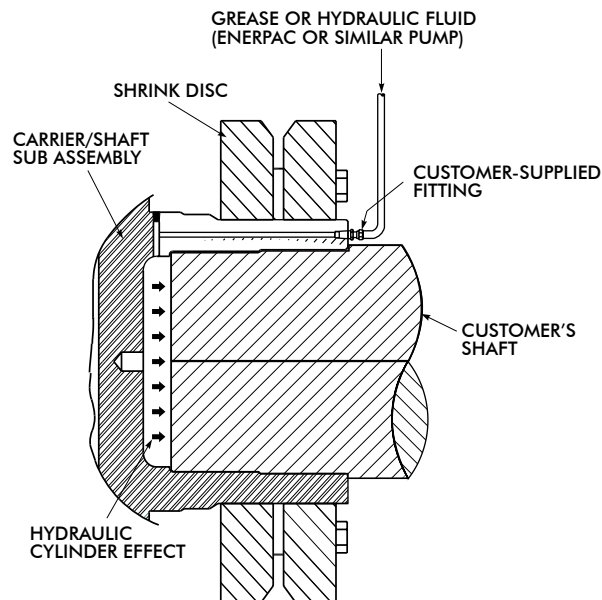

FIGURE 6.1
- C. Utilize 'hydraulic advantage' by accessing ports (1/8-27 NPT) located on hollow shaft face, and on outer diameter of hollow shaft (Figure 6.1).